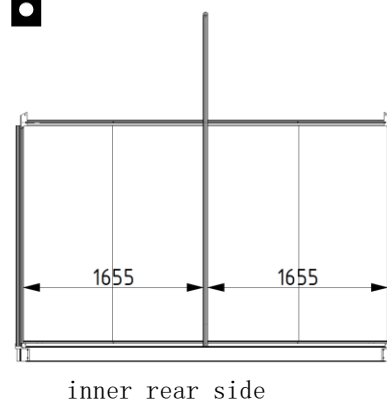

fig. 29.1
- centering the middle gable glazing-bar (point 14.2). (fig. 29.1)